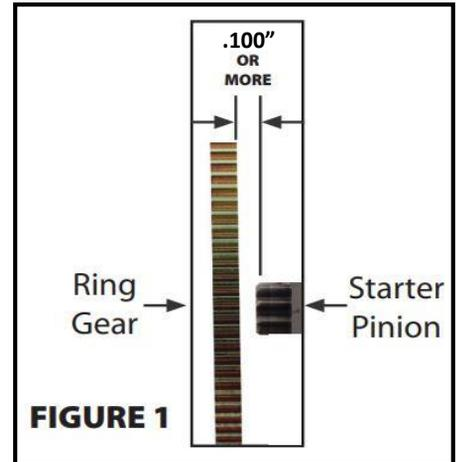
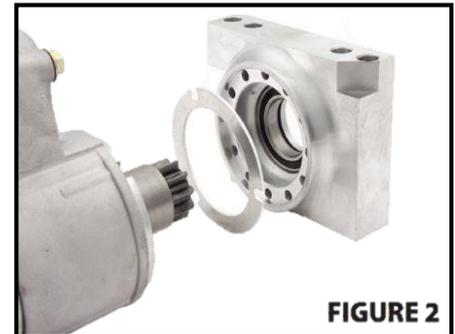
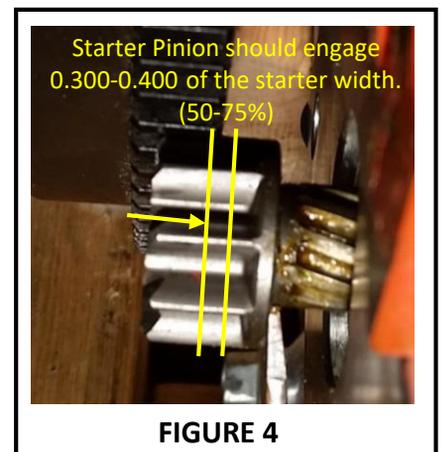

FIGURE 1
FIGURE 2
FIGURE 4
- 2) FITMENT:** Check starter for clearance against oil pan and exhaust. If you encounter any interference re-clock the starter by removing the 3 hex head bolts. The starter can now be reattached in any combination of the 12 mounting holes (Figure2) and retightened to 50 in/lbs. You can now install the provided starter mounting bolts and torque to 32 ft/lbs. We do not recommend heat wraps on our starters, however a custom heat shield with air gap between unit and exhaust is optional.
- 3) PINION CLEARANCE:** There should be a minimum of .100" clearance between the pinion gear and ring gear (Figure1). This can distance can be larger than .100" as long as the starter pinion engages properly. Proper engagement is when the pinion gear is engaged 50-75% of the ring gear width (Figure 4). If your engagement is too shallow, you can remove the preinstalled inner shim (See Figure 2). This will allow the pinion gear to engage 0.065 deeper.